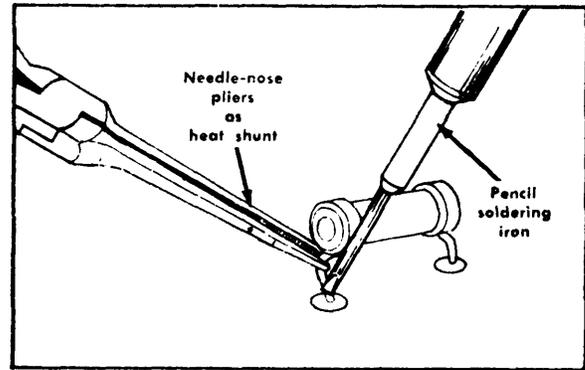

Fig. 4-4. Removing or replacing component on circuit board.
1. Grip the component lead with long-nose pliers. Touch the soldering iron tip to the lead at the solder connection. Do not lay the iron directly on the board, as it may damage the board. See Fig. 4-4.